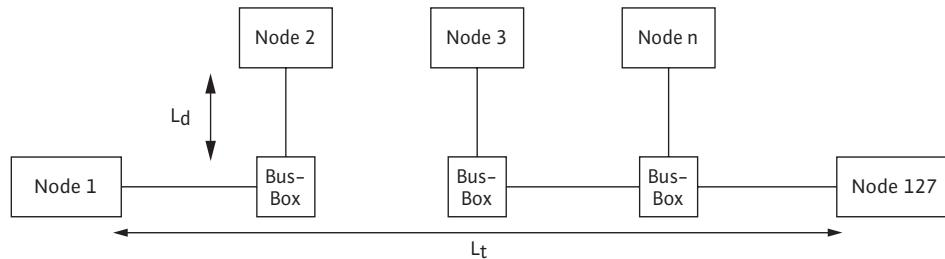
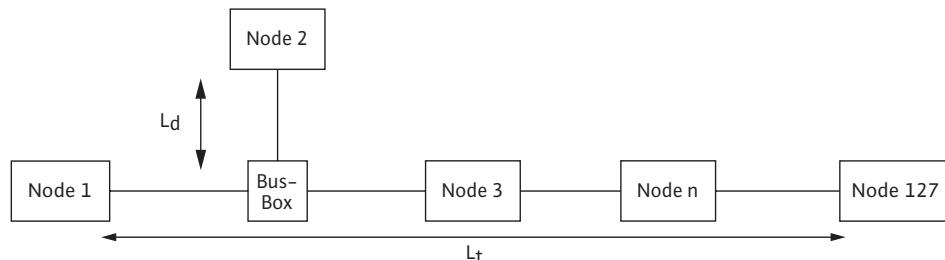
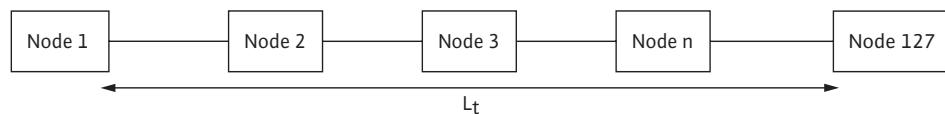

Fig. 1: Line structure with connection of all nodes via short spur lines
Fig. 2: Line structure with connection of individual nodes via short spur lines
Fig. 3: Pure line structure
- For the configuration of the various bus topologies, the maximum line lengths are to be taken into account (cf. fig. 1, fig. 2, fig. 3):